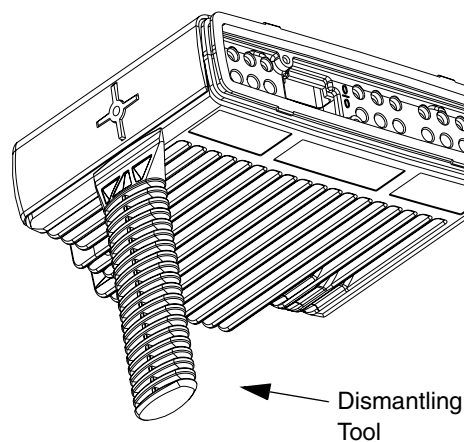

Figure 3 Top Cover Removal.
1. Insert the dismantling tool in the middle of the terminal assembly side groove as shown in Figure 3.